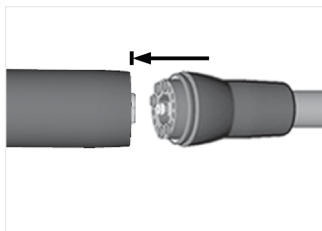

FIG. 2
2. Position the motor and its proprietary hose as shown in **FIG. 2**. Rotate it to find the exact position and push it into the motor.